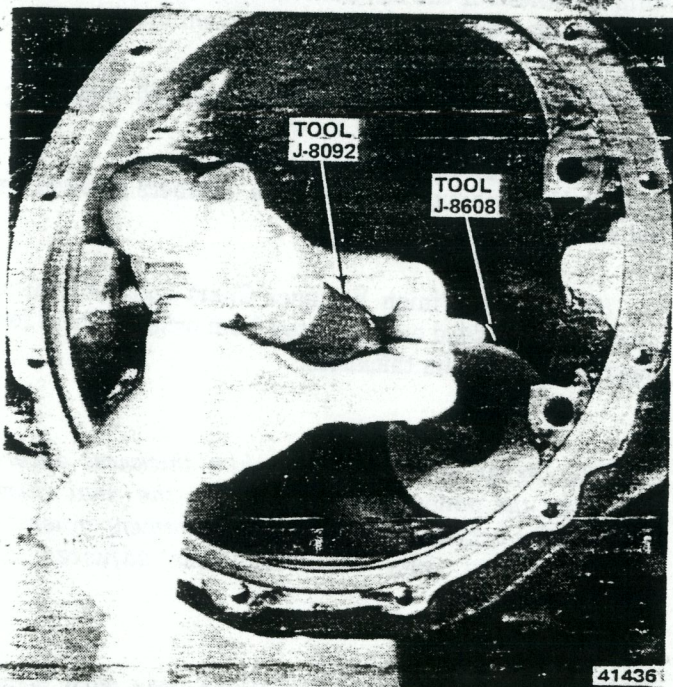

Fig. 2F-37 Pinion-Rear Bearing Cup Installation
(5) Clean pinion bearing bores in axle housing thoroughly. This is important to obtaining correct pinion gear depth adjustment.
(6) Install starter pinion depth shim in housing rear bearing cup bore. Be sure shim is centered in bearing cup bore.
(7) Install rear bearing cup using Tools J-8092 and J-8608 (fig. 2F-37).
(8) Install front bearing cup using Tools J-8092 and J-8611-01.
(9) Install pinion gear in rear bearing cup.
(10) Install front bearing, rear universal joint yoke, and original pinion nut on pinion gear. **Tighten pinion nut only enough to remove bearing end play.**
(11) Note pinion depth variance marked on pinion gear. If number is preceded by a plus (+) sign, add that amount (in thousandths) to standard setting for axle model being overhauled. If number is preceded by a minus (-) sign, subtract that amount (in thousandths) from standard setting. Result of this addition or subtraction is desired pinion depth. Record this figure for future reference.
(12) Assemble Arbor Tool J-5223-4 and Discs J-5223-23 and install assembled tools in differential bearing cup bores (fig. 2F-38). Be sure discs are completely seated in bearing cup bores.
(13) Install bearing caps over discs and install bearing cap bolts (fig. 2F-38). Tighten bearing cap bolts securely, but not to specified torque.
(14) Position Gauge Block J-5223-20 on end face of pinion gear with anvil end of gauge block seated on gear and gauge plunger underneath Arbor Tool J-5223-4 (fig. 2F-38).
(15) Assemble and mount Clamp J-5223-14 and Bolt J-5223-24 on axle housing (fig. 2F-38). Use axle housing cover bolt to attach clamp to housing.
(16) Extend clamp bolt until it presses against gauge block with enough force to prevent gauge block from moving.
(17) Loosen gauge block thumbscrew to release gauge block plunger. When plunger contacts arbor tool, tighten thumbscrew to lock plunger in position. Do not disturb plunger position.
(18) Remove clamp and bolt assembly from axle housing.
(19) Remove gauge block and measure distance from end of anvil to end of plunger using a 2 to 3 inch (5 to 8 cm) micrometer (fig. 2F-39). This dimension represents the **measured pinion depth**. Record this dimension for assembly reference.
(20) Remove bearing caps and remove arbor tool and discs from axle housing.
(21) Remove pinion gear, rear bearing cup, and pinion depth shim from axle housing.
(22) Measure thickness of depth shim used in step (10). Add this dimension to measured pinion depth obtained in step (8). From this total, subtract desired pinion depth. Result represents correct shim thickness required.
(23) Following examples will illustrate procedure for determining correct shim thickness.